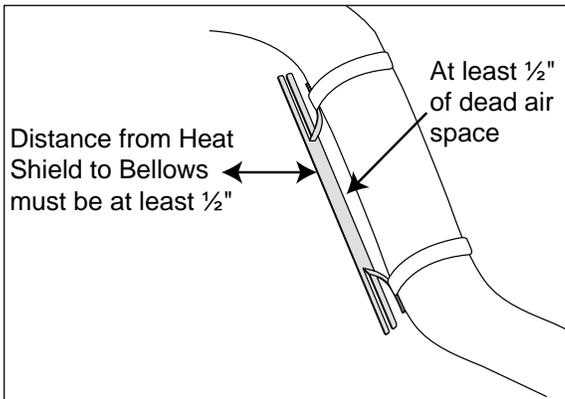

Figure 9
2. Attach the heat shield (N) to the exhaust pipe using the provided clamps (O). See Figure 9. Bend the heat shield for maximum clearance to the air spring.